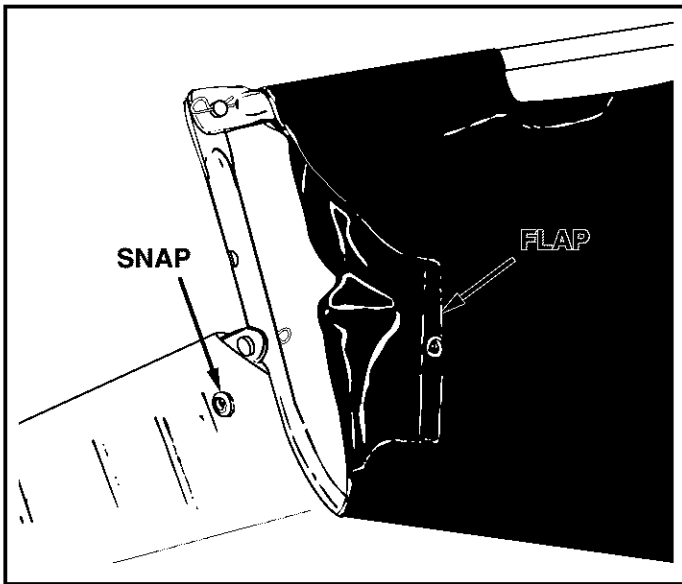

FIGURE 15
21. Secure the bag corners around the lower hopper tubes by snapping the bag flaps to the bag bottom. See figure 15.